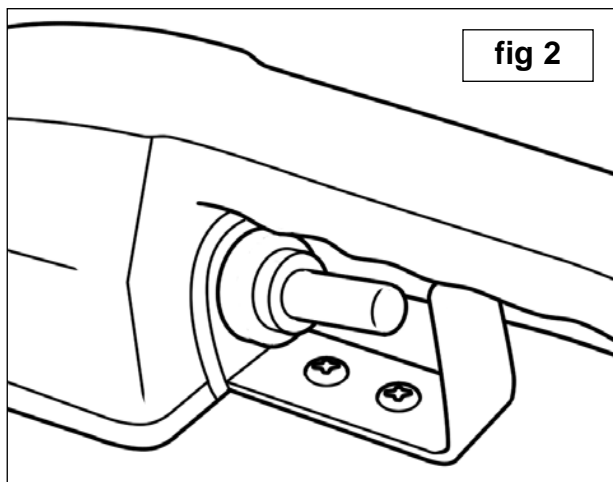

fig 2
- 4.1.2 Use the toggle switch (fig 2) to start/stop the unit.